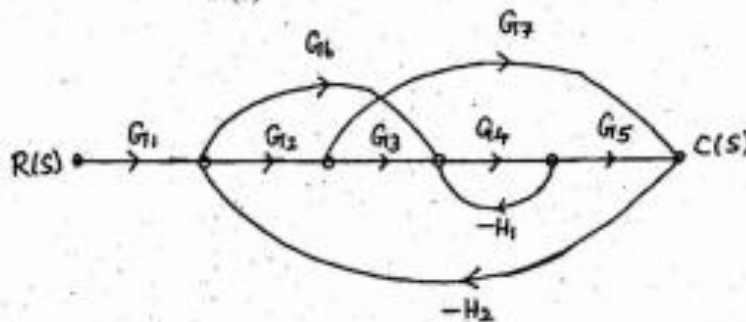

Fig. 2
- (b) Consider the signal flow graph shown in Fig. 2. Obtain the closed loop transfer function $\frac{C(s)}{R(s)}$ by the use of Mason's gain formula.